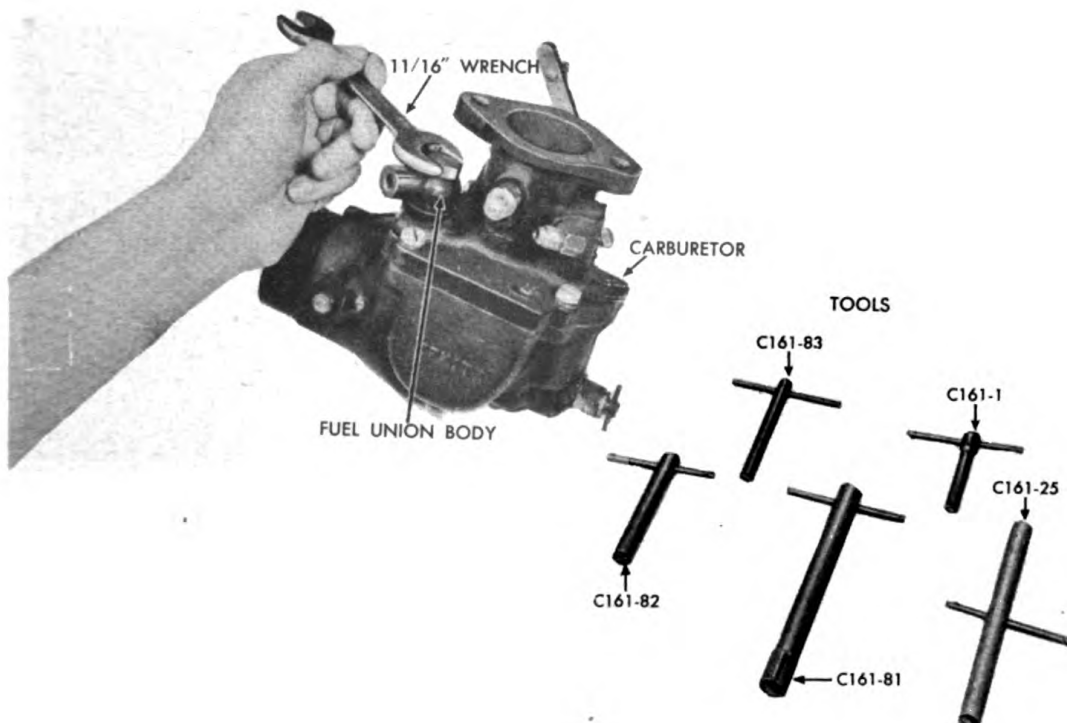

Figure 253. Removing Fuel Body and Showing Tool Kit.
Also an ordinary 1/2" socket wrench, see Figure 253 for illustration of tools.
A. Remove the large (hex) fuel filter plug, two fibre washers, filter screen and filter body from top of float bowl using an 11/16" wrench. Figure 253.
B. Remove the two assembly screws (hex) and lockwashers which attach the throttle body to the fuel bowl body. Figure 253.